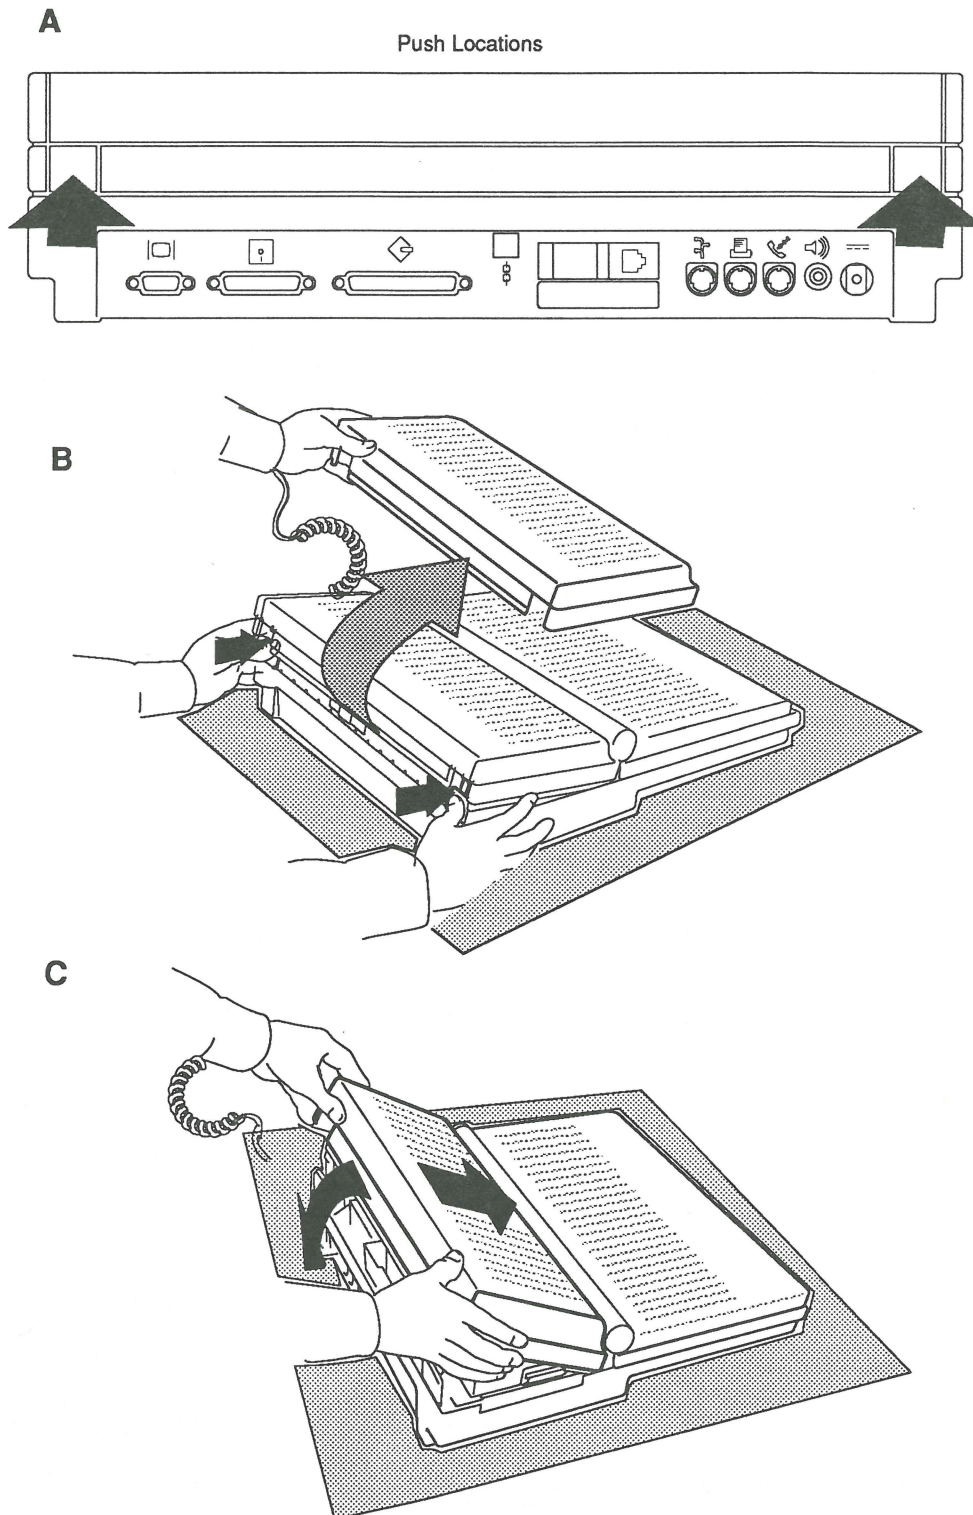

FIGURE 1
2. **Figure 1-A and 1-B.** Press in the two plastic cover latches at the upper left rear and upper right rear of the computer. Next pivot the rear of the cover up and toward the front of the computer, and lift off the rear cover.
- **Figure 1-C.** Center the rear cover over the computer, place the front edge in position, and pivot the rear down. Press down on the rear of the cover until it snaps in place.